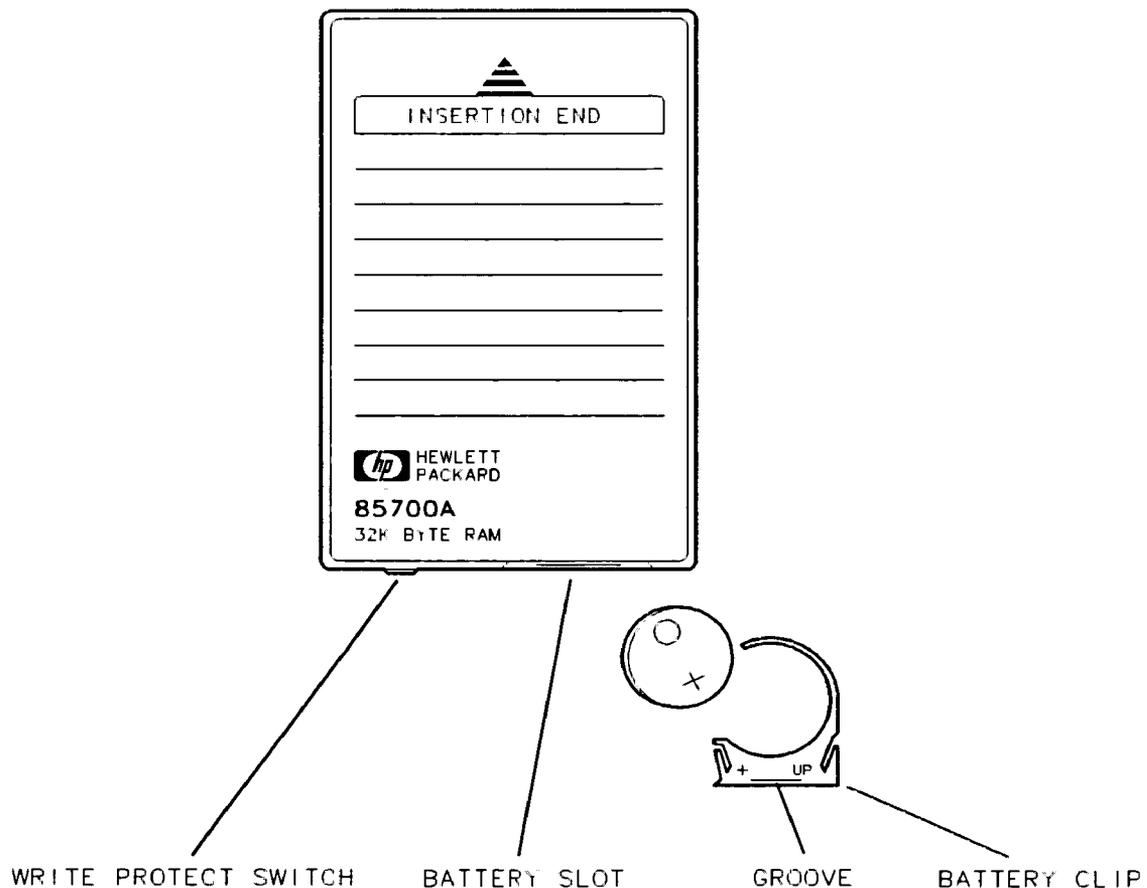

Figure 2-6. Memory Card Battery Replacement
1. Locate the groove along the edge of the battery clip. See Figure 2-6.
4. Insert the battery clip into the memory card, holding the clip as oriented in Figure 2-6. (Face the "open" edge of the clip toward the write-protect switch on the memory card.)